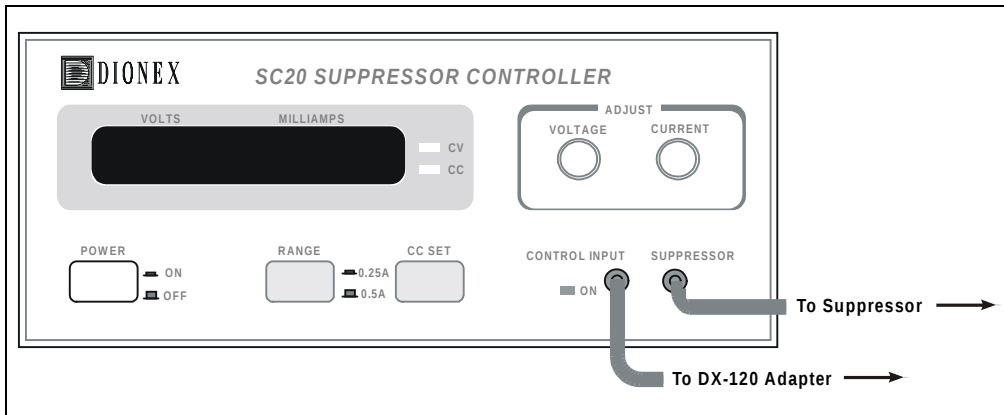

Figure 15. SC20 Suppressor Controller Front Panel
1. Locate the **SUPPRESSOR** and **CONTROL INPUT** cables extending from the front panel of the SC20 (see Figure 15). Route the cables to the DX-120 as follows:
1. Turn the **VOLTAGE** and **CURRENT** knobs on the SC20 front panel (see Figure 15) fully counterclockwise to prevent high voltage and current when the system is turned on.
1. If you have not turned on the SC20, push the **POWER** button on the SC20 front panel to **On** (see Figure 15).